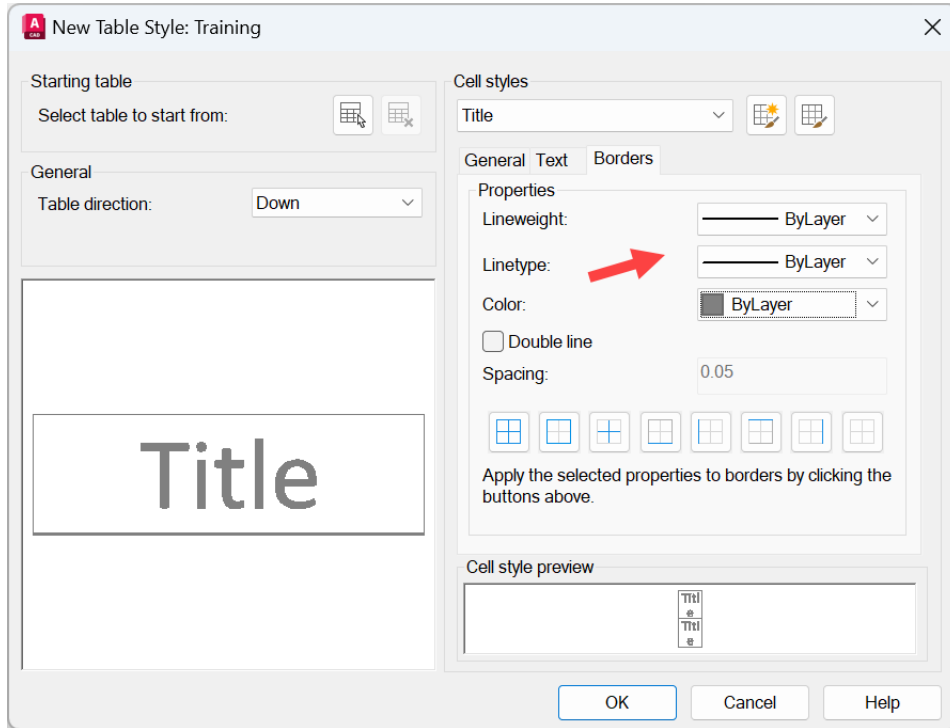

Figure 7.37: The Title cell style Borders tab
13. Set the **Lineweight**, **Linetype**, and **Color** properties to **ByLayer**, as shown in *Figure 7.37* (arrowed).